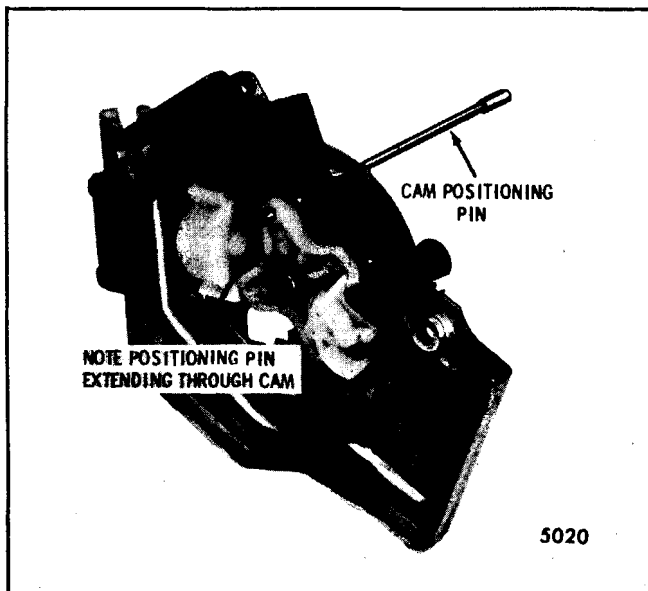

Fig. 2-64-Cam Alignment Pin Installation
2. Rotate the 4-lobe cam until index hole (.125" dia.) in the cam is aligned with the hole in the pump mounting plate. Insert a pin through both holes to maintain cam in position (Fig. 2-64).